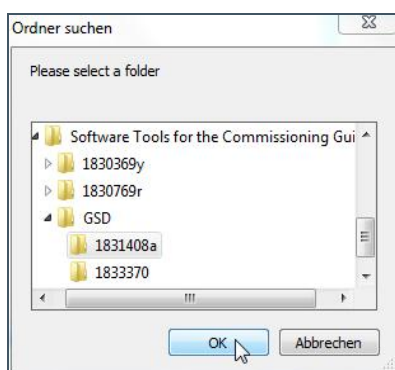

Figure 7: Select GSD file folder
- 3) Select the GSD file **folder** for the example 1 and click **OK** (see: Figure 7: Select GSD file folder).